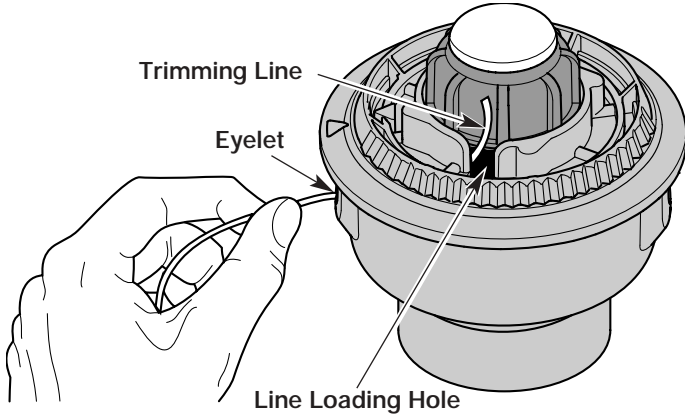

Fig. 13
3. Pull old line out of the line loading and line locking holes (Fig. 13 and 14).
4. Insert a piece of trimming line straight into one of the two eyelets in the outer spool. Push it up through the line loading hole in the inner reel (Fig. 13). Do not bend the line when inserting it into the eyelet.